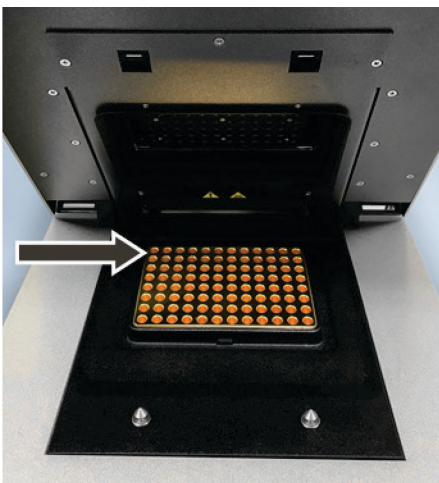

Figure 9. Position A1 on the sample block.
3. Place the PCR plates onto the thermal block in such a way that well A1 is on the left-hand side (arrow in **Figure 9**). This position corresponds to the well allocation in the QIAquant 96 software program.